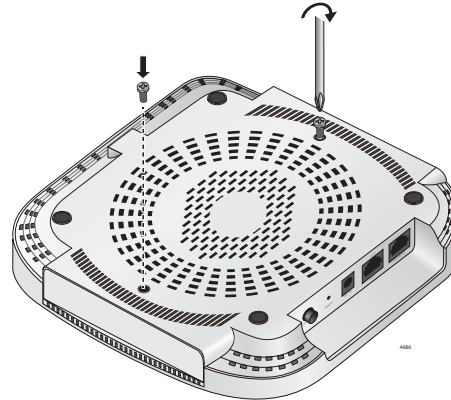

Figure 5. Attach Screws to Access Point Chassis
1. Install the two screws (provided) in the bottom side of the access point chassis. Refer to Figure 5.